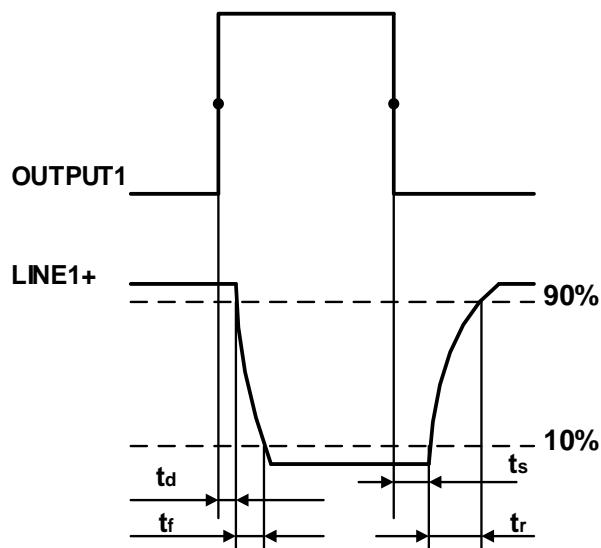

Figure 7-6 Parameter of opto-isolated output circuit
- Rising time delay = tr+td: <50μs (0°C~45°C) (parameter description is shown in Figure 7-6)
- Falling time delay = ts+tf: <50μs (0°C~45°C) (parameter description is shown in Figure 7-6)
- Rising time delay = tr+td: <20μs (0°C~45°C) (parameter description as shown in Figure 7-6)
- Falling time delay = ts+tf: <20μs (0°C~45°C) (parameter description as shown in Figure 7-6)